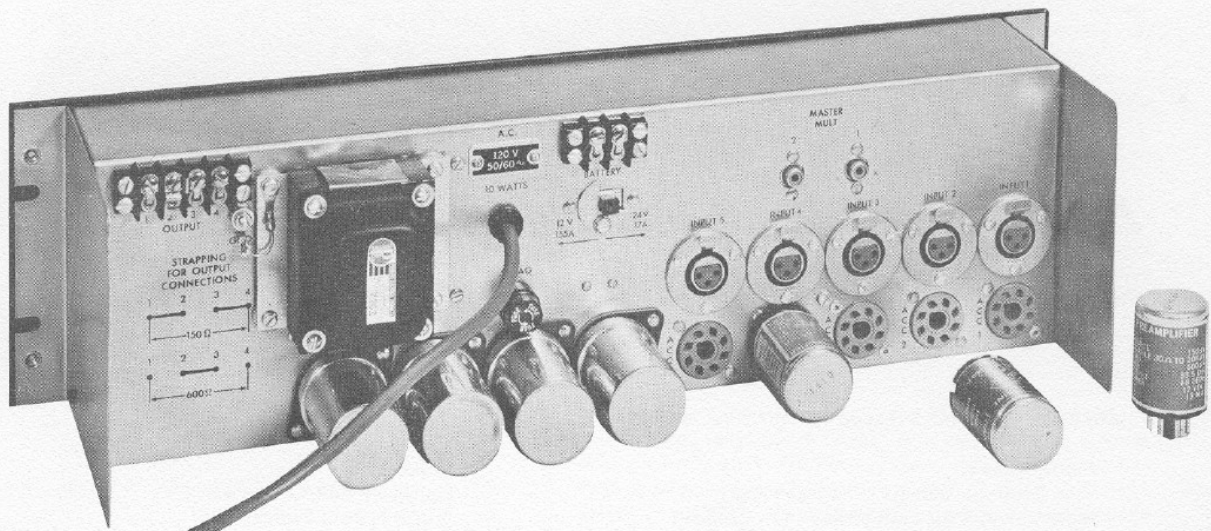

Figure 5. Rear View of 1592A
Power for the 1592A can be derived from 120V or 240V 50/60 Hz ac lines, or from 12/14V or 24/28V dc sources. The change of battery source voltage i.e., 12/14 to 24/28V is accomplished with a rear-panel slide-switch, equipped with a locking plate (Figure 5). When ac and battery power are both connected, the amplifier operates from the ac source and automatic transfer to battery power is achieved if the ac source fails.
3. MEANS FOR PARALLELING a pair of 1592A Mixer Amplifiers -- is accomplished at a midpoint in their circuitry. Externally, the amplifiers are connected by a single coax patch-cord between the "Multiple Master Jacks" on their rear panels (Figures 5 and 6). There are two multiple master jacks on the rear panel of each amplifier, so that up to 4 amplifiers may be paralleled in a single system.
## REAR PANEL CONTROLS (Figure 5)
2. Output Strapping Connections (Figures 5 and 12).
3. Multiple Master Jacks (Figures 5 and 6).
4. Individual channel plug-in accessory sockets (Figure 5).